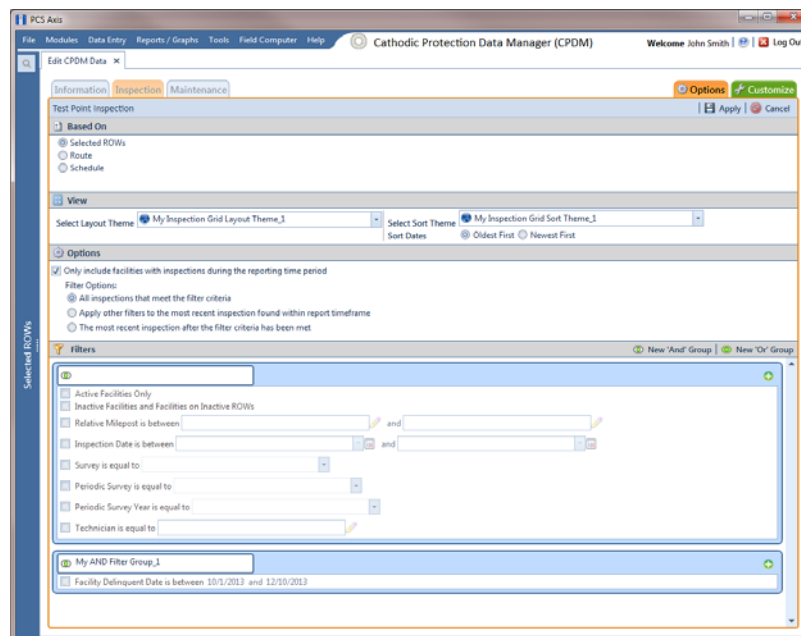

Figure 6-75. Options
- 14 To apply one or more filters to the data entry grid (Figure 6-75, page 242):